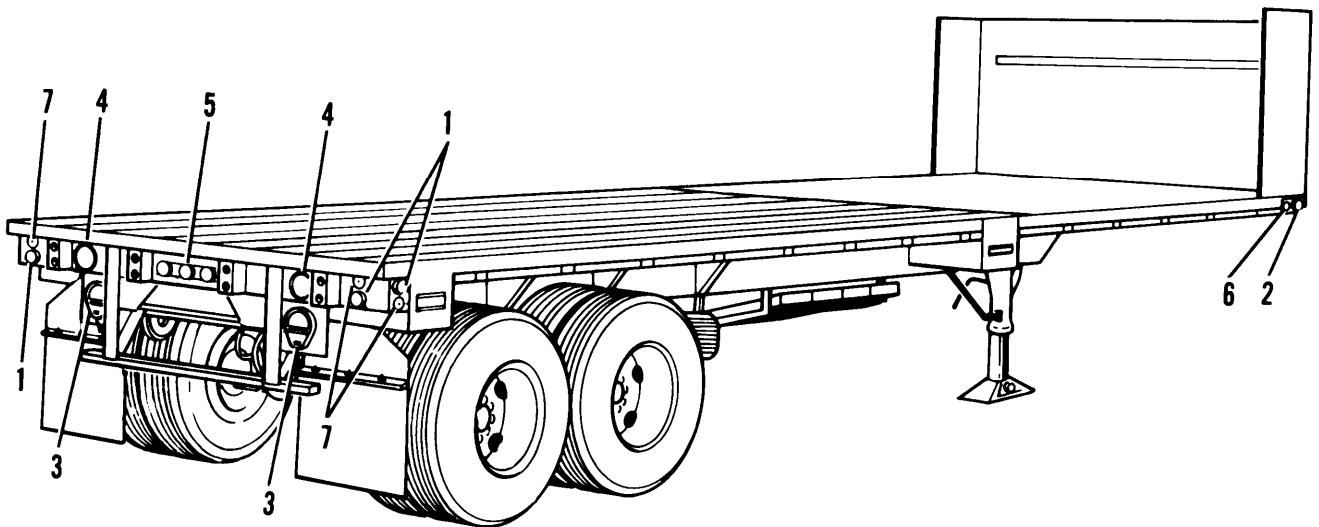

Figure 2-8. Service Lights and Reflectors (M871)
- Four red clearance lights (1, fig. 2-8) on rear
- One amber clearance light (2) on each side
- Two blackout lights (3) on rear
- Two stop, turn and taillights (4) on rear
- Three red clearance lights (5) mounted on a bar
- One amber reflector (6) on each side
- Four red reflectors (7) on rear